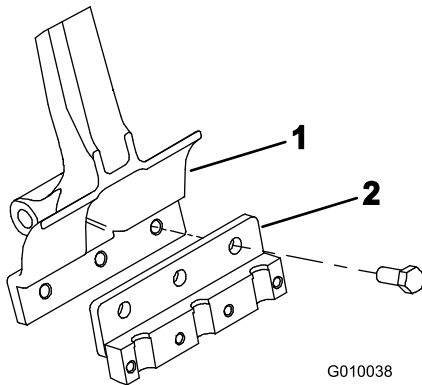

Figure 22
2. Mount a tine holder to each tine arm with 3 bolts (1/2 x 1-1/4 inches) (Figure 22). Torque the bolts to 101.6 N-m (75 ft-lb).